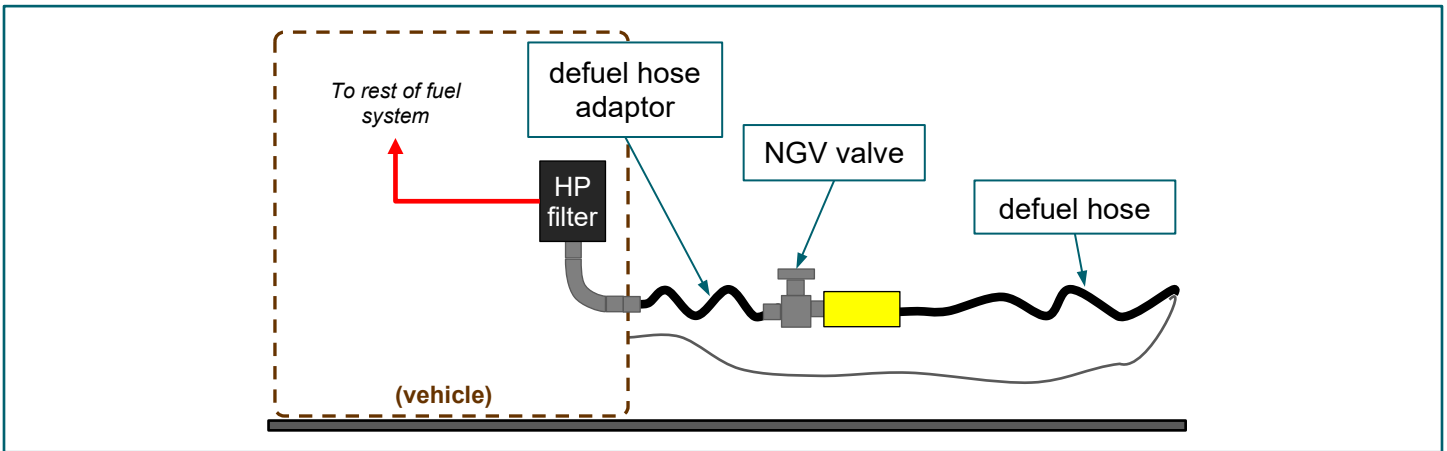

FIGURE 3-14. Defuel adaptor hose, NGV valve, defuel hose
b. Disconnect defuel adaptor hose from defuel hose. **FIGURE 3-14**
c. SLOWLY open defuel adaptor hose NGV valve. **FIGURE 3-14**